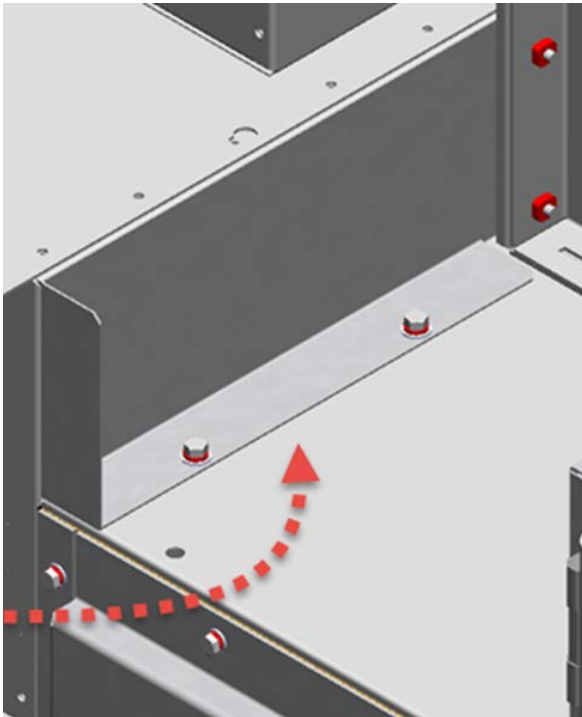

Figure 12: Secure the upper bracket to the roof of the Transition Frame
7. Secure the upper bracket attached to the MCC to the roof of the Transition Frame using the supplied hardware (Figure 12).